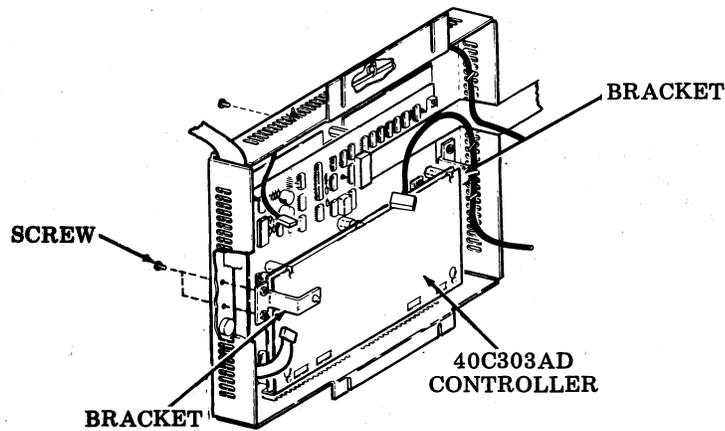

Fig. 42—Assembly of 40C303AD Controller
- (c) 40C303AA/001 only (Fig. 42 — The 403445 cable must lay flat on the circuit card, any excess cable must be tucked under the 403444 cable and be clear of the switch pack.